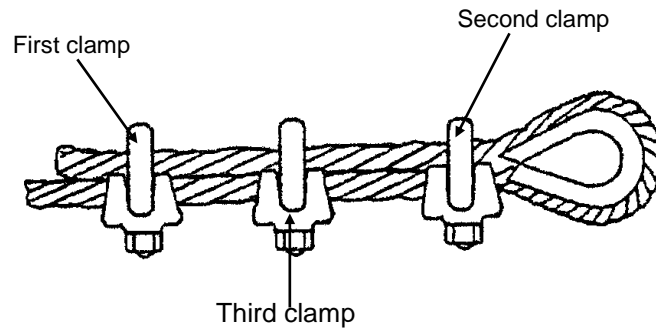

FIG 44.
C. Apply the next clamp as near to the loop as possible. Screw on the nuts firmly but do not tighten them. (Fig 44 on the following page)
- D. Space the additional clamp equally between the first two as shown in Fig 44. Tighten all the nuts to the required torque. (See Table 2)